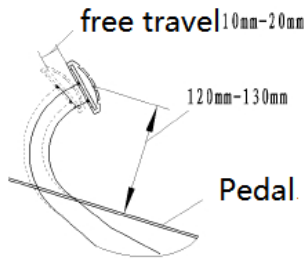

figure14
(2) If the adjuster cannot perform the above actions when pulling the adjustment lever, the following checks shall be made:
5.3.7 Brake pedal adjustment. shown as figure 14